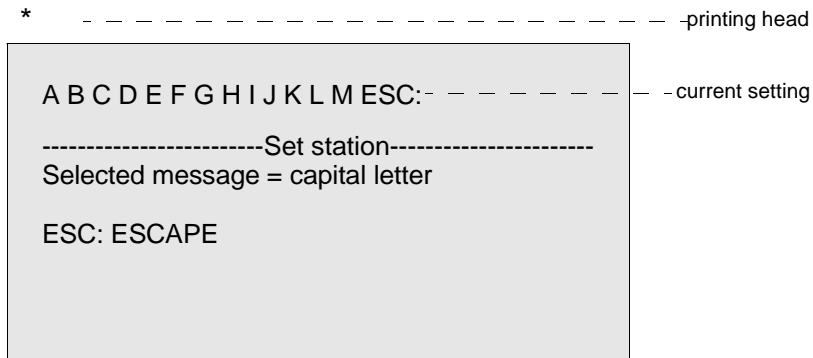

Figure 10. Main Menu B
29. Get into the MAIN MENU, place the printing head above "B" and press either the ENT key (figure 3, item 4) or ACCEPT key (figure 3, item 8). The following is printed out (figure 10).